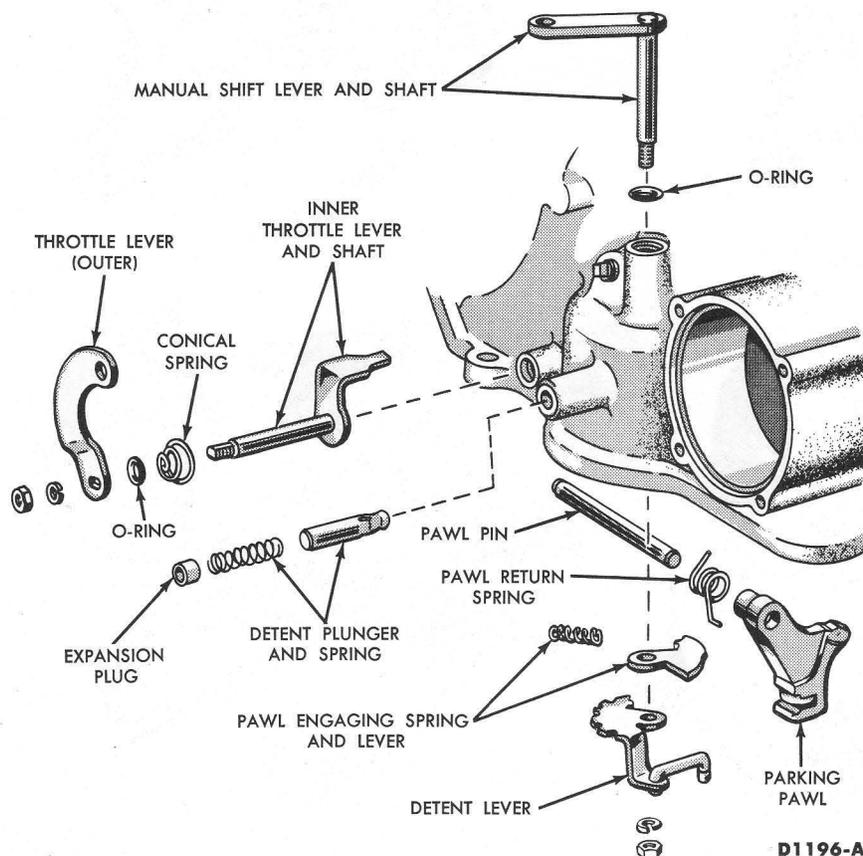

FIG. 23—Throttle and Manual Linkage
1. Remove the nut and lockwasher from the throttle lever shaft (Fig. 23).
1. Remove the nut and lockwasher from the manual lever shaft (Fig. 23).
1. Place a new O-ring in the manual lever shaft hole counterbore. Install the manual lever and shaft in the case (Fig. 23).